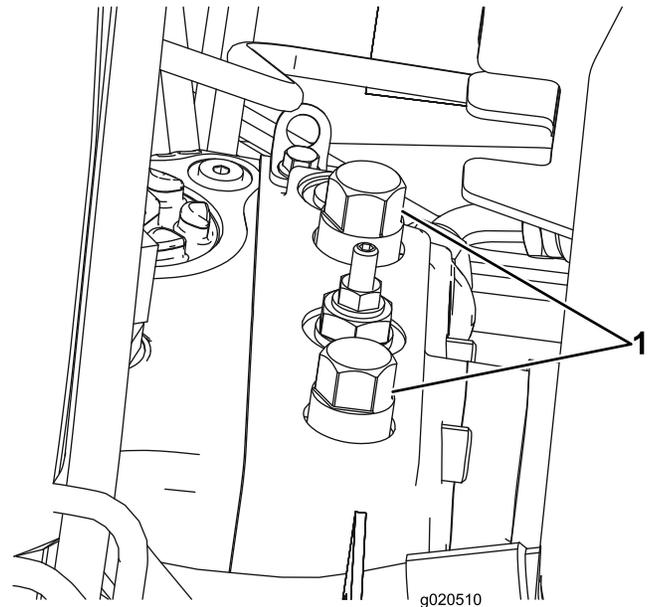

Figure 43
1. Open the hood and locate the bypass valves (Figure 43) on the top of pump, behind the battery/storage boxes.